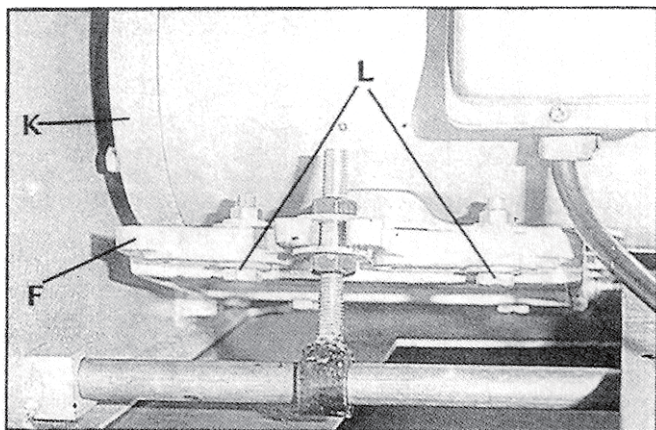

Fig. 13
2. Place motor (K) on motor plate (F), as shown in Fig. 13. Fasten motor(K) to motor plate (F) using the four sets of motor mounting bolts, washers and nuts (L). Do not completely tighten motor mounting nuts and bolts at this point.